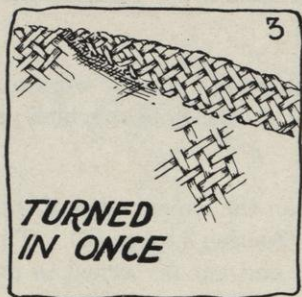

FIG. 3.
- (3) If the edge is to be turned in once, follow Sections 4, 5, and 6 *b* and *e* (pages 57 and 58). (See Figure 3.)